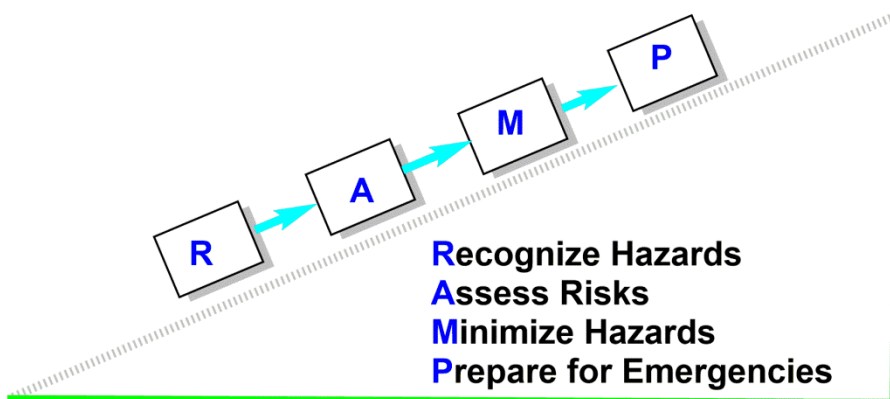

Figure 2: RAMP Method for Recognizing Hazards
- Review emergency plans using the RAMP (Fig. 2) method⁵⁻⁶.